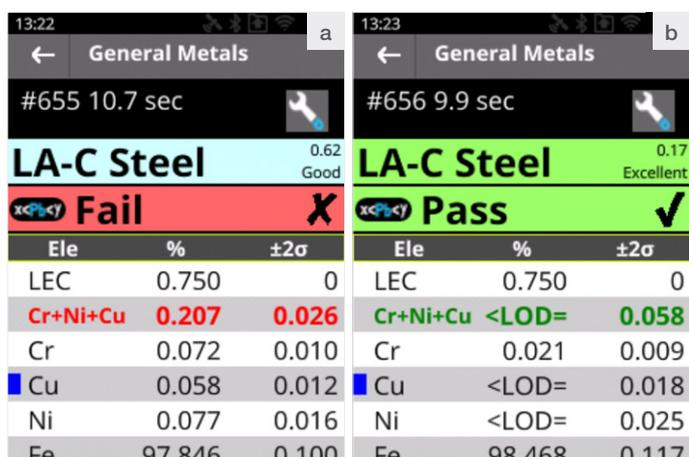

Figure 1. measurement of RE in carbon steel. Sample containing RE both a) above and b) below the threshold of 0.15%.
- A pseudo-element feature and a pass/fail setting to be used respectively to calculate the sum of RE and assess if the level is above or below 0.15% threshold (Figure 1)